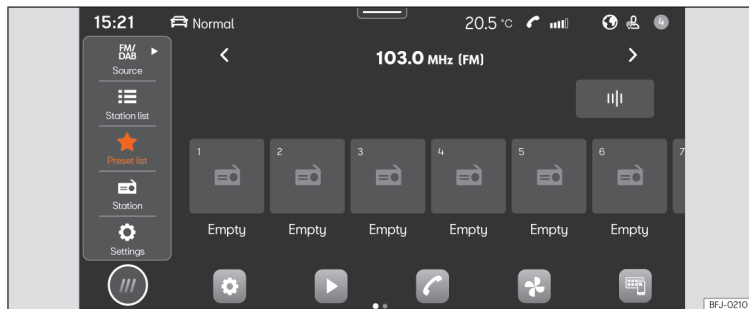

Fig. 131 Schematic diagram: Radio view.
- Press **HOME** > >>> **Fig. 131**.